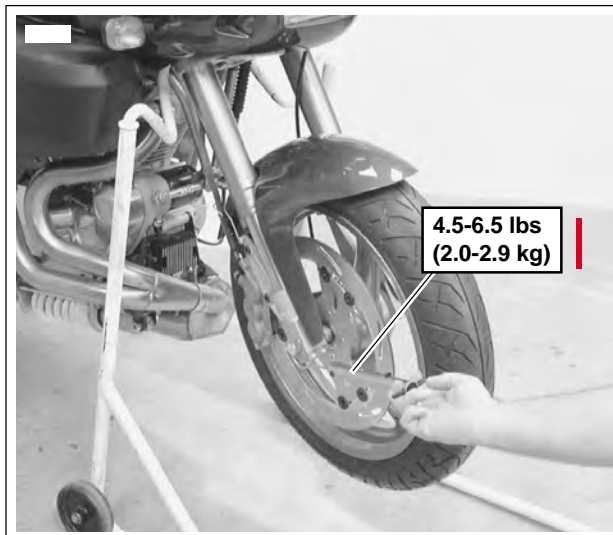

Figure 1-38. Checking Steering Head Bearings (Typical)
1. See Figure 1-38. Raise front wheel off floor using FRONT WHEEL SUPPORT STAND (Part No. B-41395-A) and LIFT ADAPTER (Part No. B-43426-1)